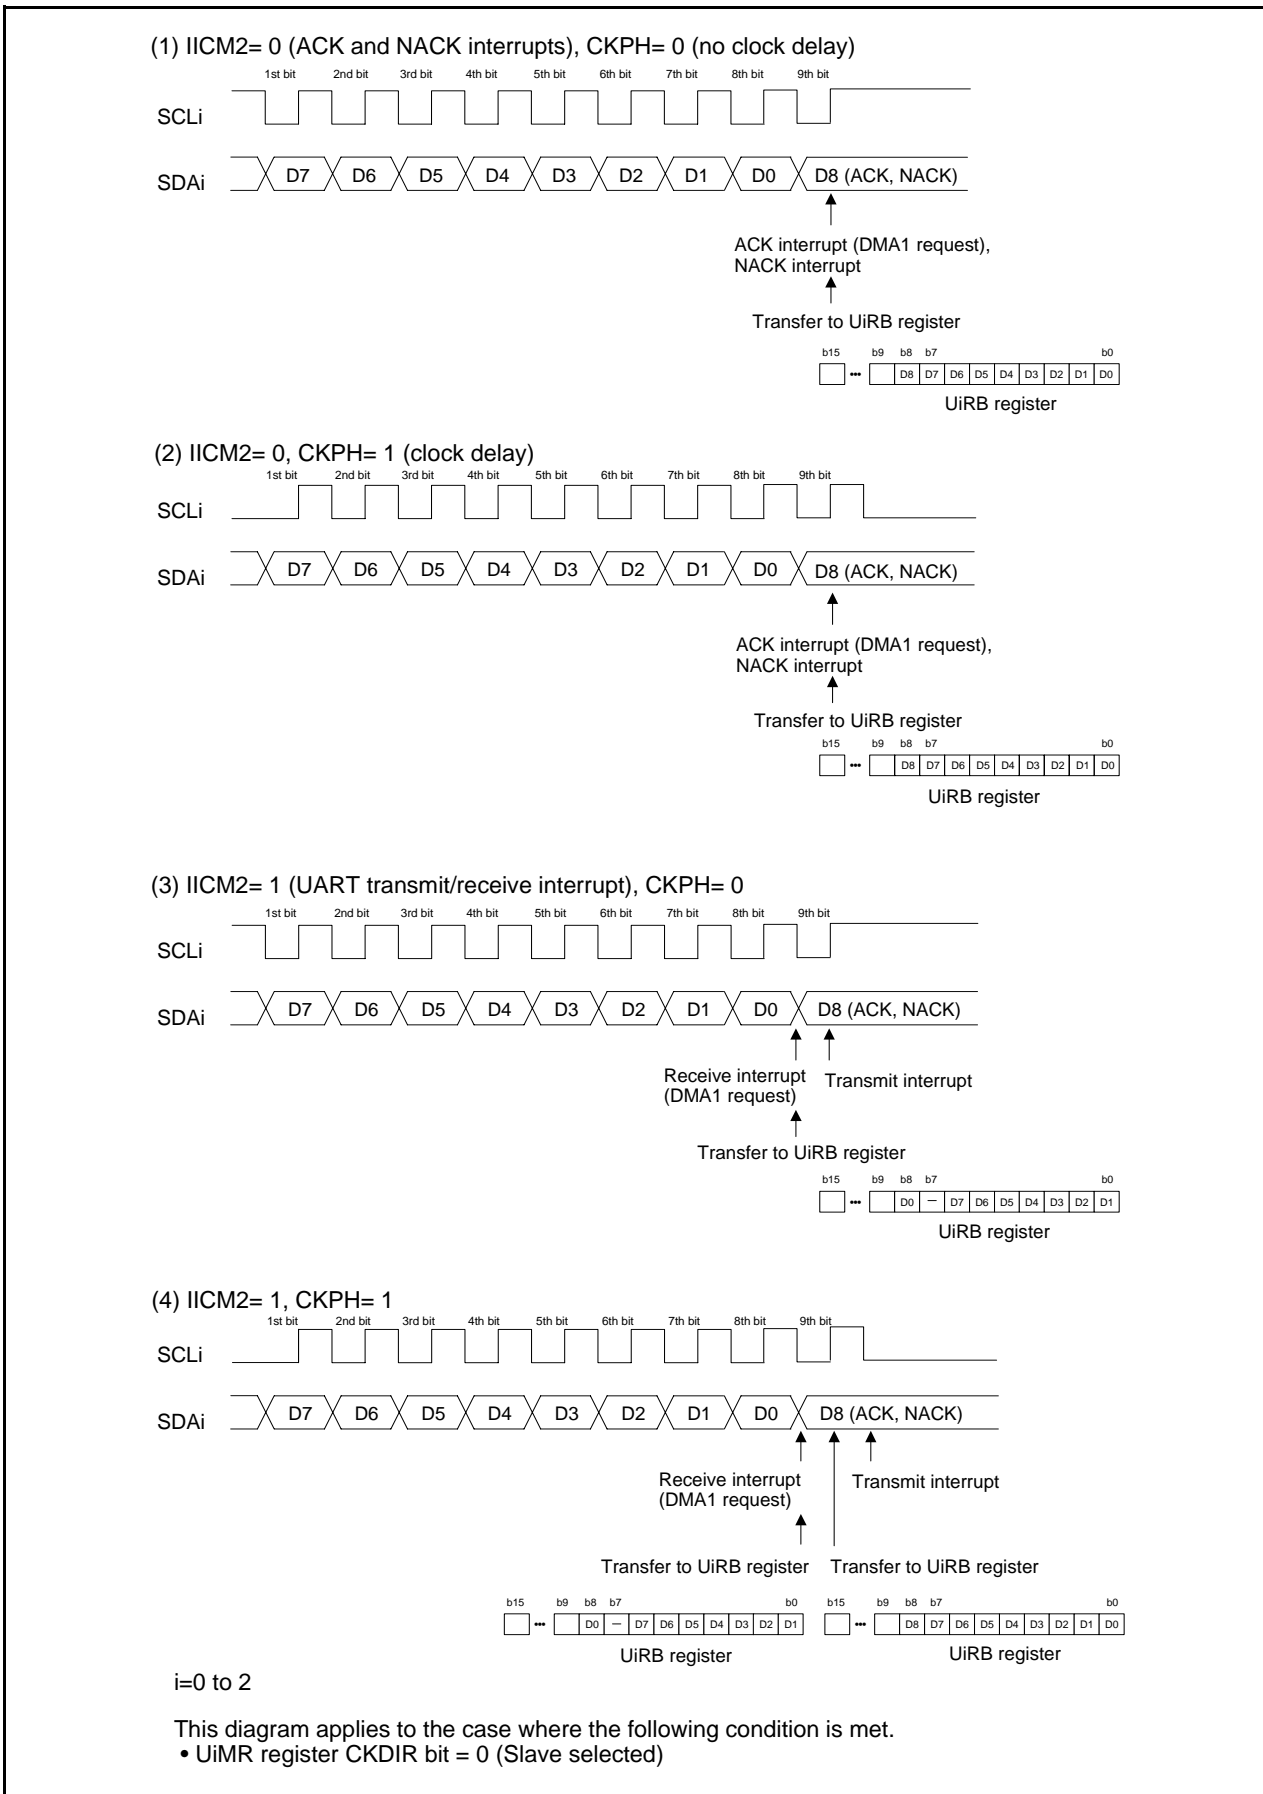

Figure 15.25 Transfer to UiRB Register and Interrupt Timing
6. See **Figure 15.25 Transfer to UiRB Register and Interrupt Timing**.
Data is transmitted/received using a transfer clock like the one shown in Figure 15.25 Transfer to UiRB Register and Interrupt Timing.